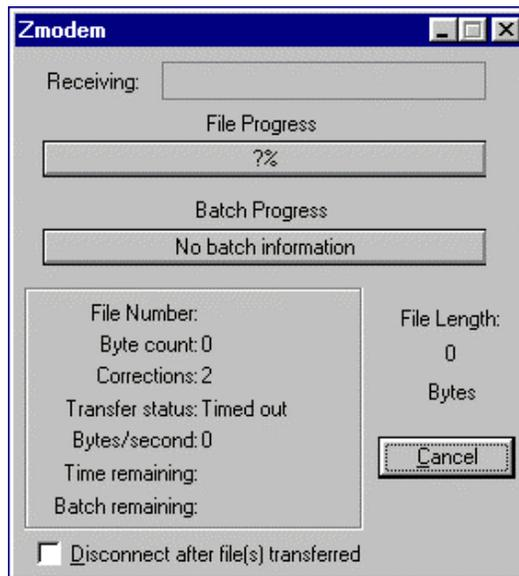

Figure 26 ProComm Receive Screen
- Once the connection is established, GSA Unit will automatically receive the data and open the Receive window (see Figure 26). All files received are then put in the **C:\My Documents\Data Download** folder which can be reached by double-clicking on the **My Documents** folder located on the Desktop.